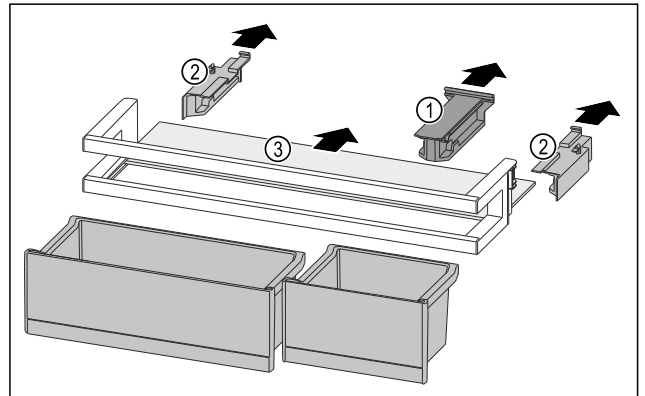

Fig. 117
- Pull off the holding part Fig. 117 (1).
- Pull off the side parts Fig. 117 (2).
- Remove the shelf Fig. 117 (3).